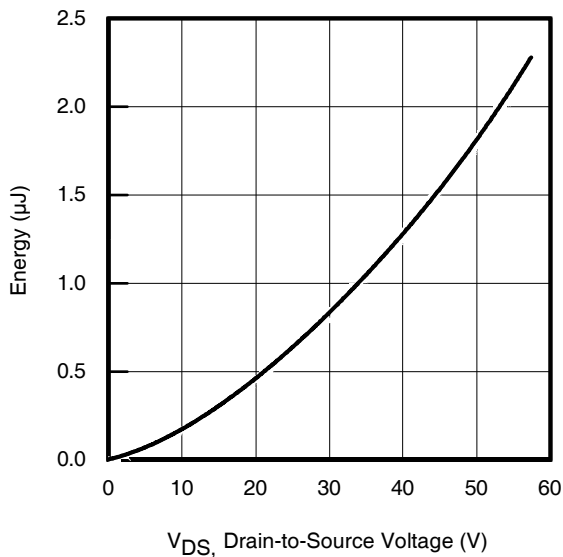

Fig 11. Typical C_{OSS} Stored Energy
| C _{oss} eff. (ER) | Effective Output Capacitance (Energy Related) ^⑦ | — | 1460 | — | | V _{GS} = 0V, V _{DS} = 0V to 48V ^⑧ (See Fig 11) |